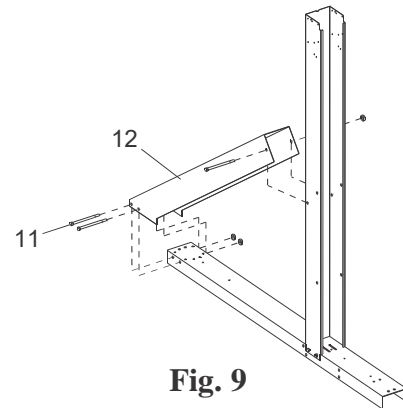

Fig. 9
C) Once all of the straight side uprights are attached, you can begin attaching the struts. This is done by pushing the angled end of the strut (the end with two holes on each side) over the end of the strap end channel and the other side around the straight side upright. The hole on each side of the strut lines up with the hole in the straight side upright that is farthest from the open end of the straight side upright. The two holes on the other end of the strut line up with the only two holes in the back end of the strap end channel. Secure the struts using three 5/16" x 5" bolts and three 5/16" nuts. (Fig.9).